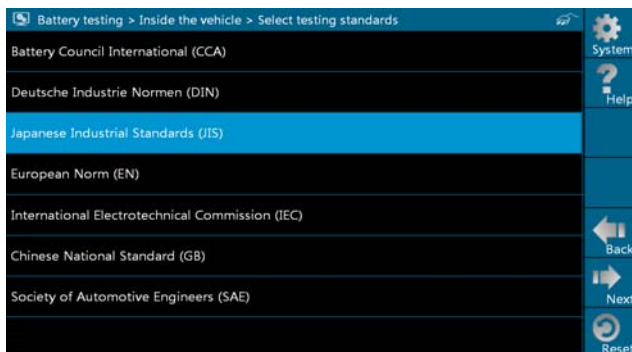

Fig. 3-5
- Follow the on-screen instructions to turn off the headlamp and click [OK], the system will continue the testing. Click [Next], it will go into Selecting testing standard screen. See Fig. 3-5